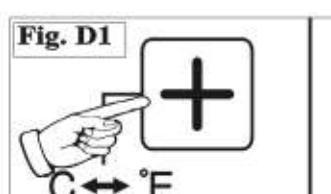

Fig. D1
- 3) Press the appropriate increase " + " or decrease " - "buttons (Fig. D1 & D2) to select a suitable operating temperature setting. Temperature settings are adjustable between 16°C (60°F) to 32°C (90°F).